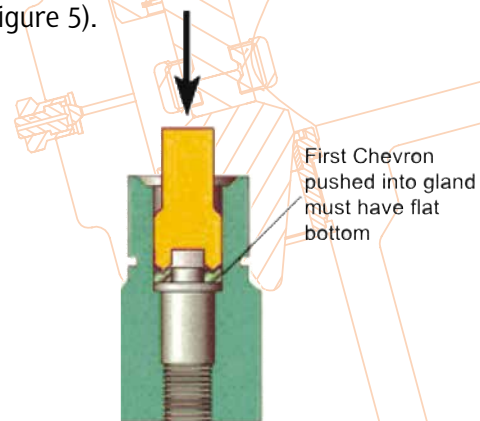

FIGURE 5.
4. Push the chevron seals into the bore one at a time (Figure 5).